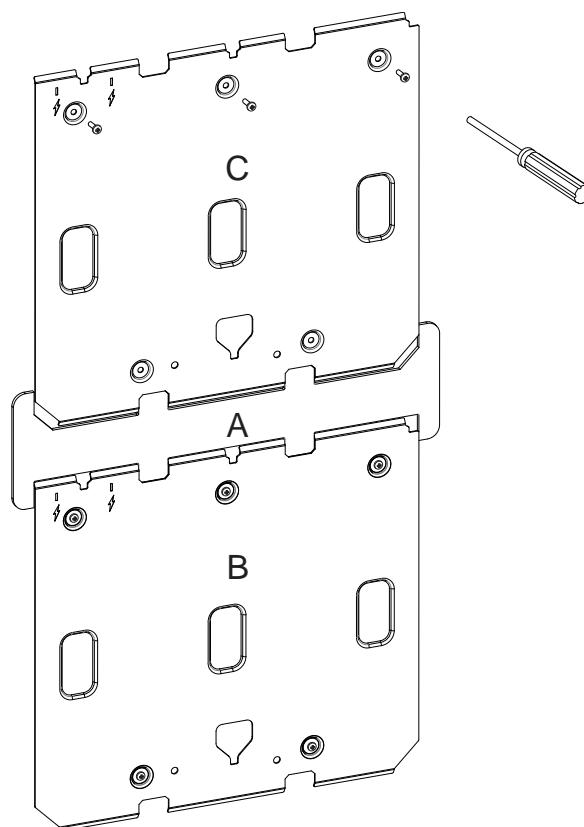

Figure A-7: Position and secure the Local Relay StaX Mounting Bracket
2. Align the Local Relay StaX Mounting Bracket (C) with the spacer (B), and secure it to the mounting surface (Figure A-7), then remove the spacer.